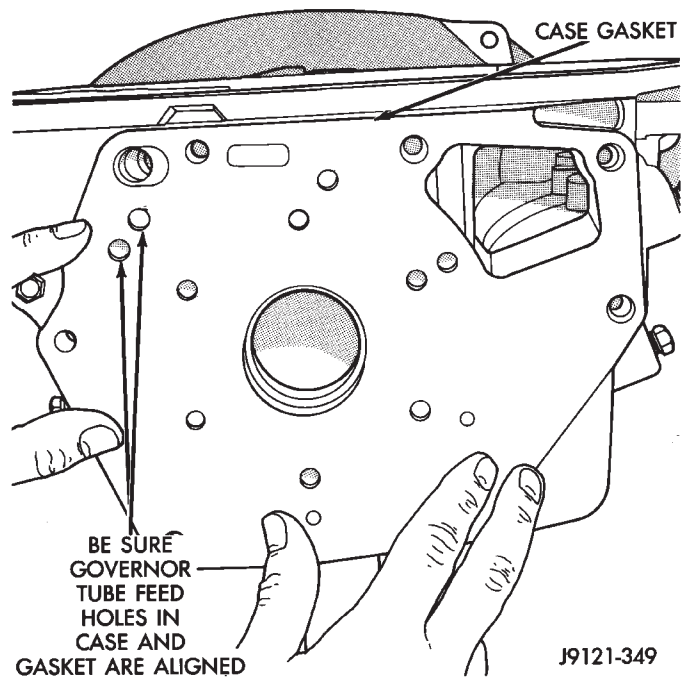

Fig. 132 Installing Case Gasket—46RH
(5) Install new gasket at rear of transmission case. Use petroleum jelly to hold gasket in place. **Be sure to align governor feed holes in gasket with feed passages in case (Fig. 132). Install gasket before**